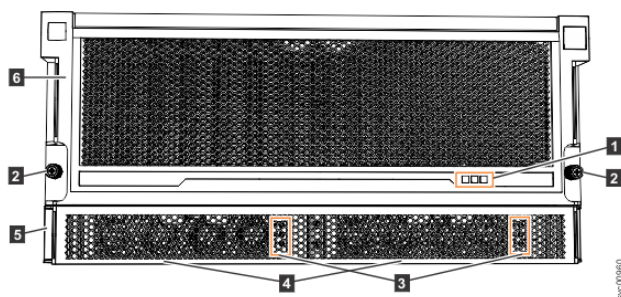
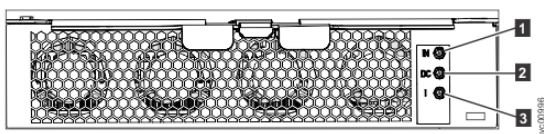

Figure 178. LEDs on the front of the expansion enclosure
Figure 179. LEDs on the front of a power supply unit
As Figure 178 on page 223 shows, the front of the 5U expansion enclosure contains LEDs for the display panel (1) and for each of the power supply units (3).
The 5U expansion enclosure contains two PSUs (4 in Figure 178 on page 223) that are accessible from the front of the enclosure. Each PSU has its own set of LEDs, as shown in Figure 179 on page 224.